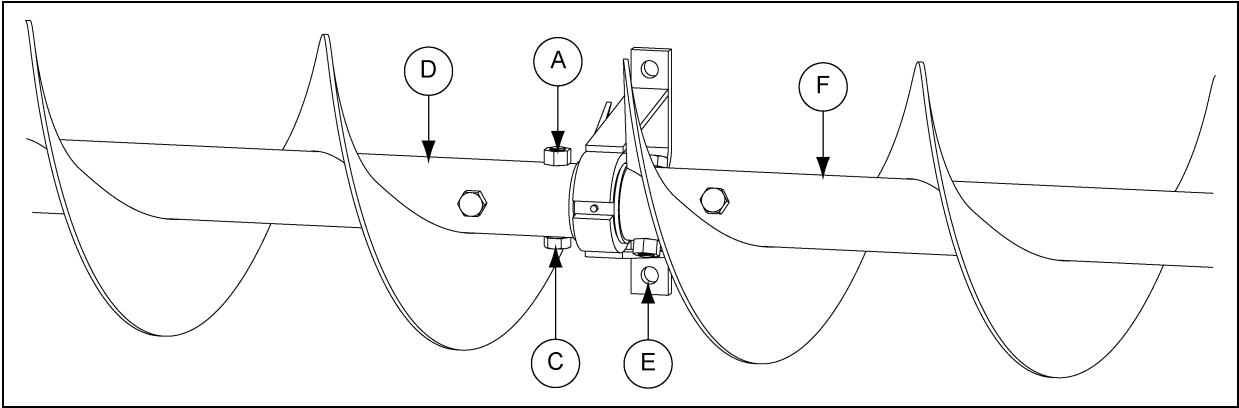

Figure 7T
4. Slide the next flight section (G) onto the connecting shaft and attach using the hex bolts (A) and lock nuts (C). (See Figure 7T.)